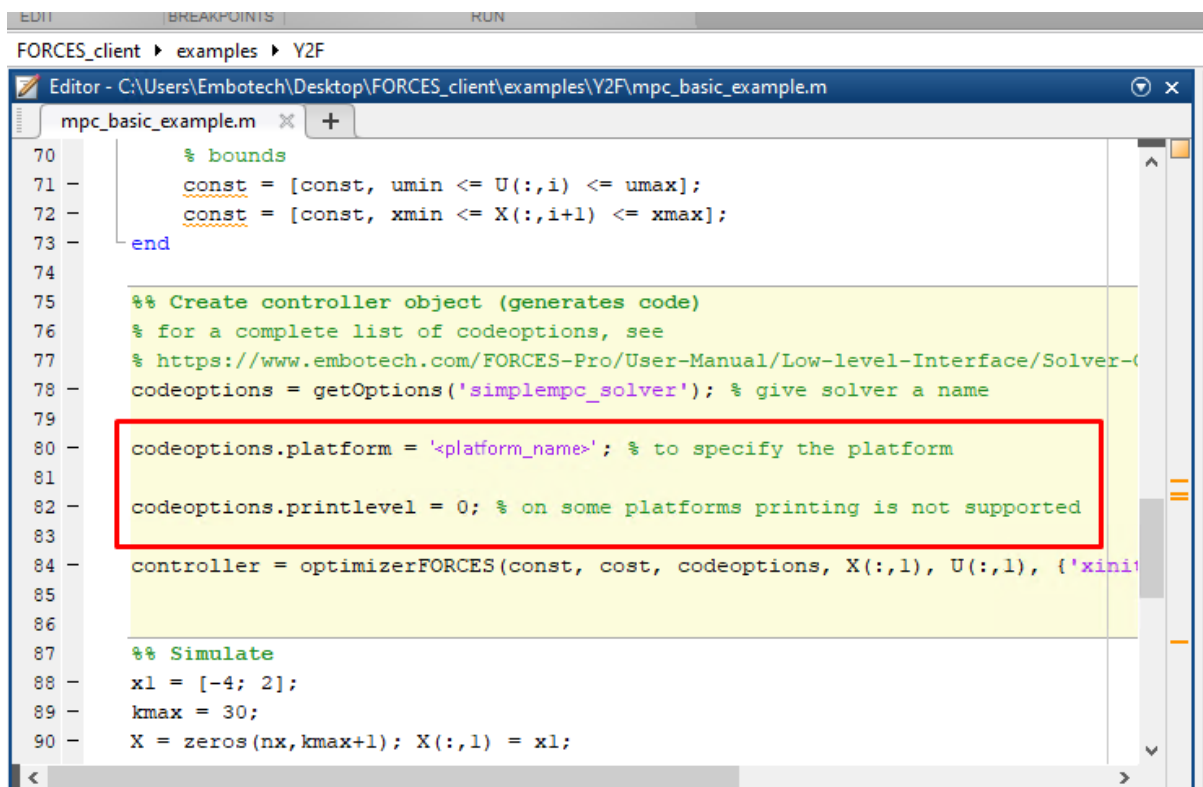

Figure 13.16: Set the appropriate code generation options.
1. (Figure 13.16) Set the code generation options (for <platform_name> see *Platform name codeoption*):